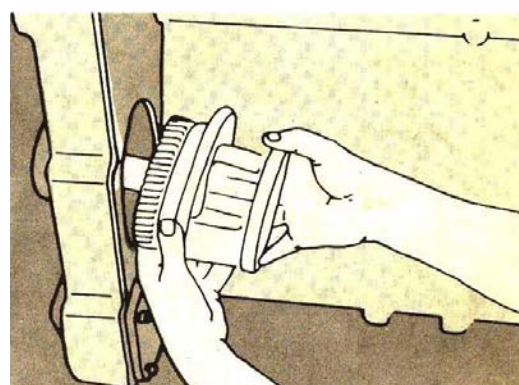

Fig. 0-23. Remove the accessory drive assembly
2. After removing the cap screws and stud nut (Fig. 0-23), tap the pulley end of the shaft with a soft hammer to remove the drive assembly.